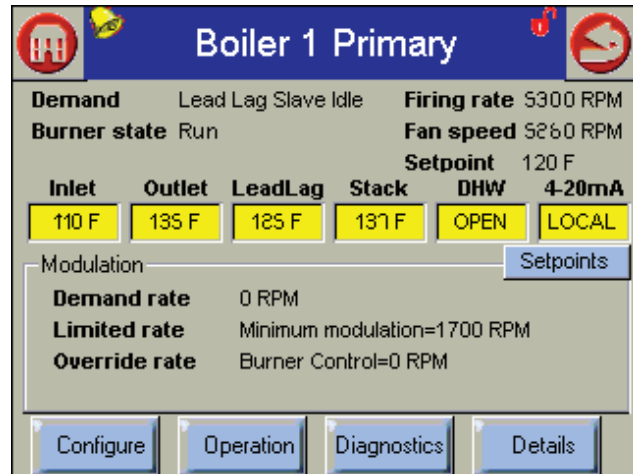

Fig. 33 - Status Summary Screen Showing Modulation Information
3. You can also press the button for Modulation (on the right side of the screen) to bring up another version of this screen showing modulation information. See Fig. 33.